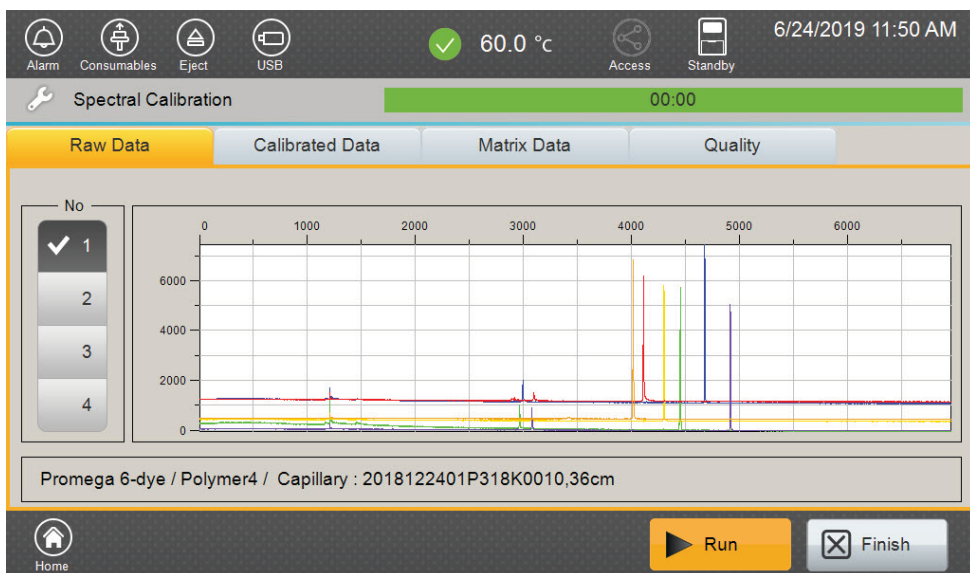

Figure 24. Spectral Calibration 'Raw Data' tab screen.
1. Following the run, the 'Raw Data' tab (Figure 24) will be displayed. The minimum peak height for spectral calibration is 500 relative fluorescent units (RFU) and the maximum peak height is 32,767RFU.